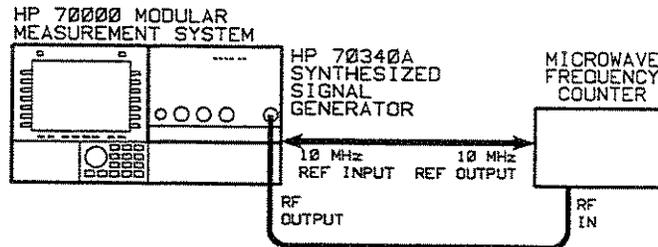

Figure 1-1. Frequency Range and Resolution Test Setup
1. Set up the equipment as shown in Figure 1-1.